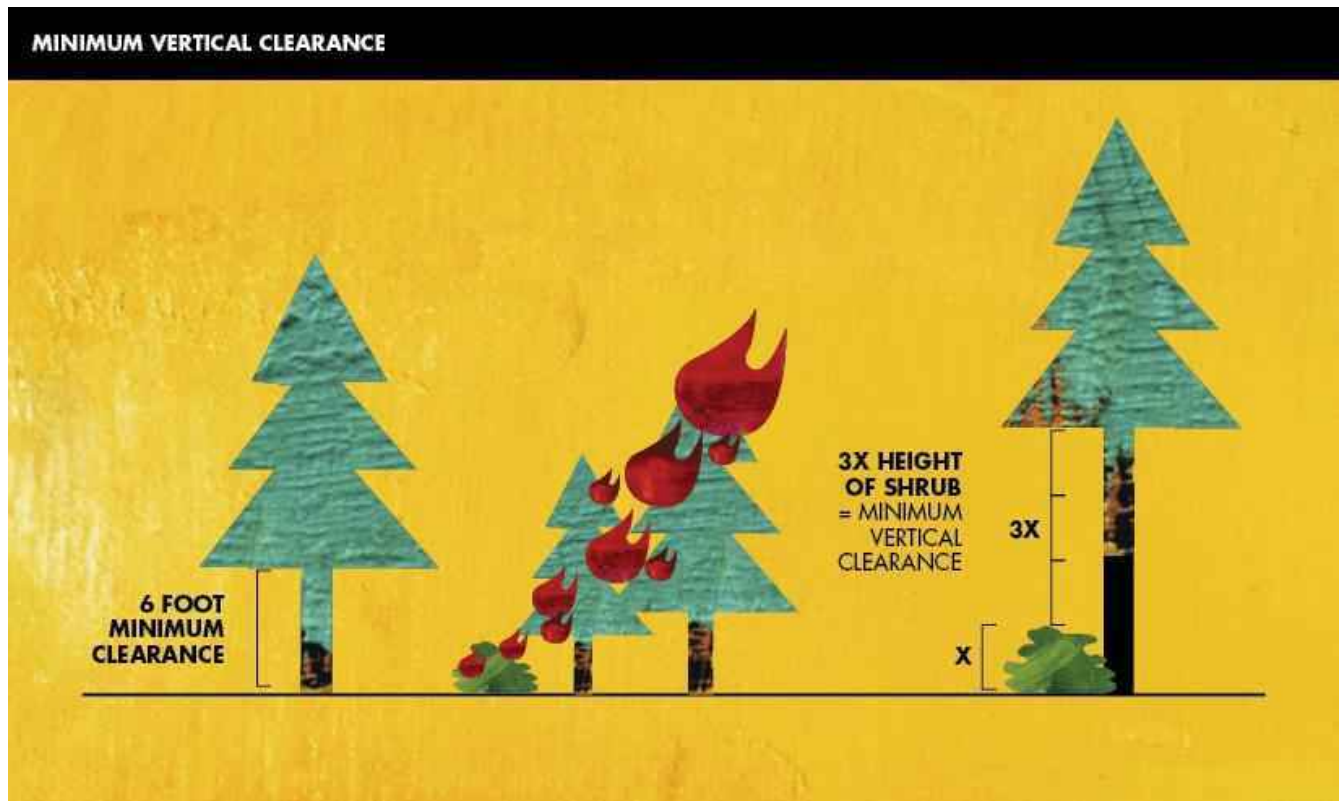

Figure 2 – Vertical Clearance and Separation
5.1 Vertical Clearance: To determine the proper vertical clearance above the ground, and the separation between shrubs and the lowest branches of trees, use the formula below. (See Figure 2)